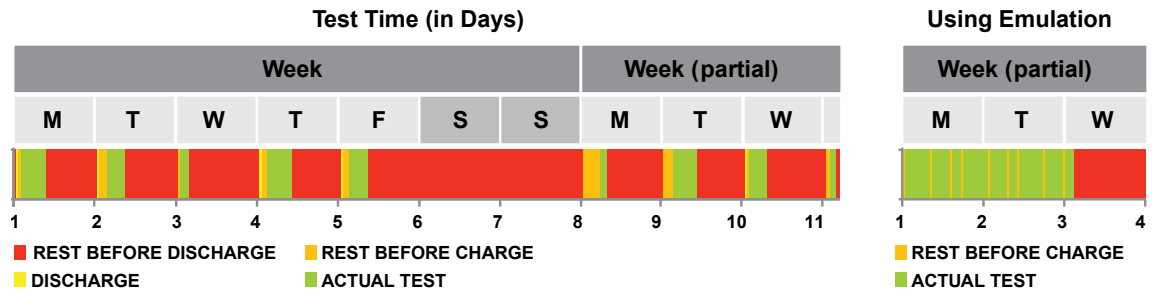

Figure 1 - Testing with Real Battery Versus Using Emulation
Figure 1 above shows actual customer data from nine (9) tests conducted with both a real battery and then an emulated battery. Upon comparison between the tests, in these cases, emulation reduces the total test time by more than 70%.